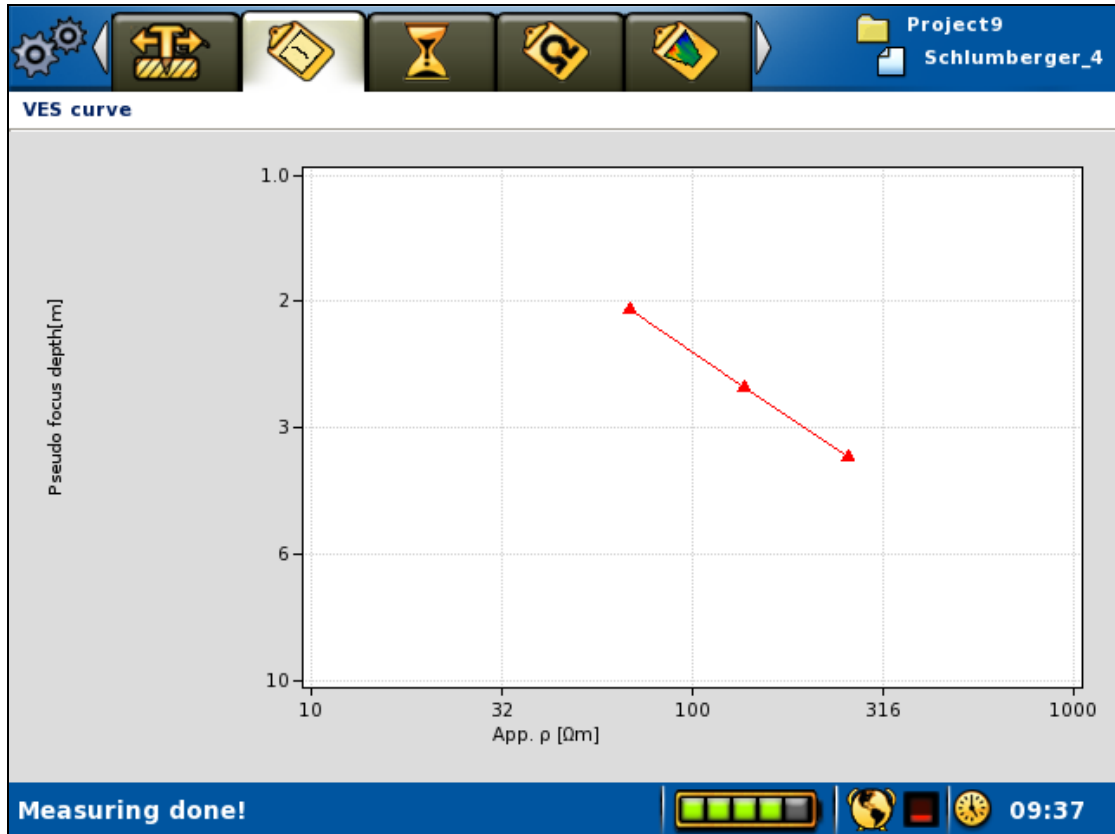

Figure 69. A VES Curve View example
- The “*Measure/VES Curve*” View (Figure 69) displays a sounding curve of the made measurements
In VES mode a sounding curve will be shown in a double logarithmic diagram on the *VES Curve View* (Figure 69). Focus depth (median depth penetration) will be on the vertical axis and apparent resistivity on the horizontal axis.